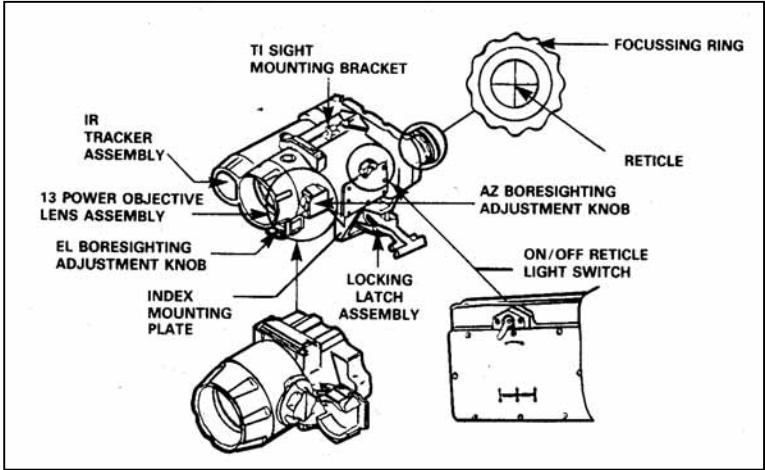

Figure 2-2-6: Optical Sight
18. **Optical Sight.** The laser protected optical sight is used to track a target and to detect the infrared (IR) signal emitted by the missile in flight. The optical sight contains a 13-power objective lens assembly, boresighted to an IR tracker assembly housed in an aluminium casting. The large lens on the front is the 13-power objective lens entrance and the smaller lens is the IR tracker lens entrance. The 13 power optical sight has a field of view of 108 mils. Focussing the telescope is accomplished by rotating the focussing ring. A soft rubber eye rest attaches to the eyepiece. The cross-hairs (reticle) that appear in the eyepiece may be illuminated by turning the on/off reticle light switch to ON. No adjustment in illumination level is possible (see Figure 2-2-6).